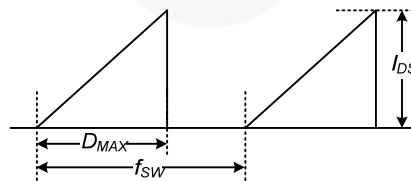

Figure 4. Repetitive Peak Switching Current
6. Repetitive peak switching current when the inductive load is assumed: Limited by maximum duty ( $D_{MAX}=0.83$ ) and junction temperature (see Figure 4).